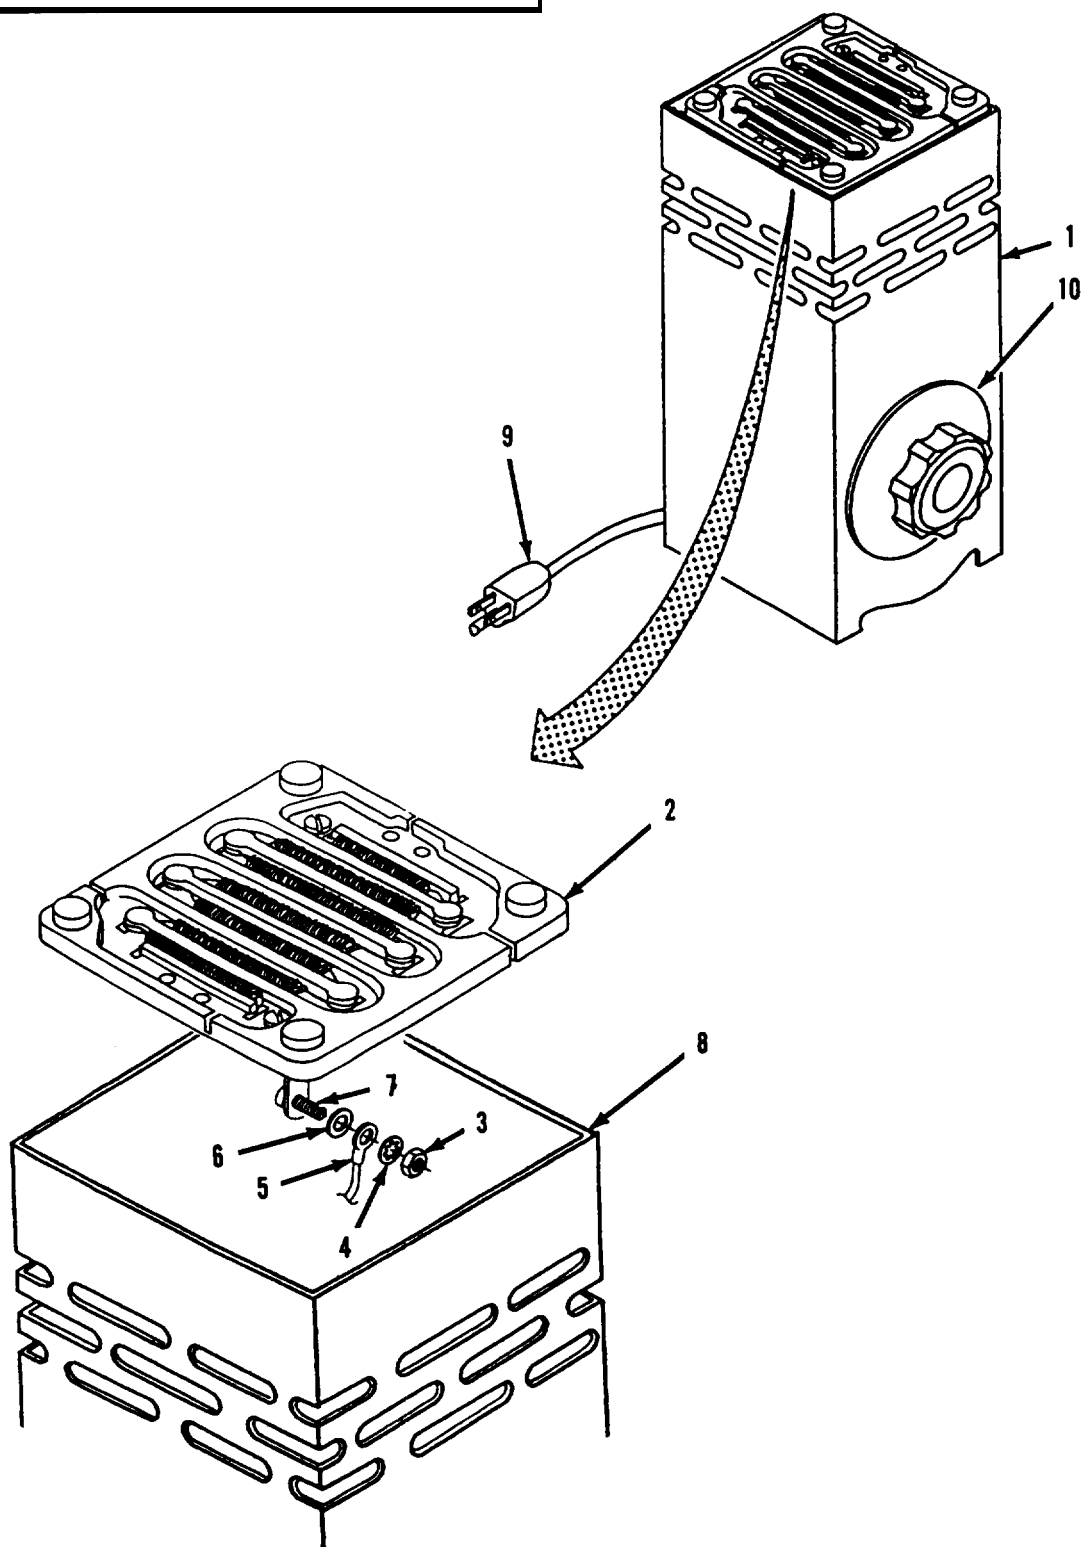

Figure 4-4. Distillation Unit Heater Element Replacement.
a. Removal. Refer to figure 4-4.
- (1) To aid removal of refractory (2), lay heater assembly (1) on its side.
b. Cleaning. Refer to figure 4-4.
- (1) Using wiping rag, remove fuel deposits, oils, and dust from refractory (2).
- (2) Clean sides of heater housing (8) with wiping rag,
c. Inspection. Refer to figure 4-4.
- (1) Inspect heater housing (8) for cracks, dents and evidence of overheating.
- (2) Check for bent or cracked control knob (10), Knob should turn smoothly in both direction,
- (3) Inspect power cord (9) for cuts, torn insulation or damaged plug.